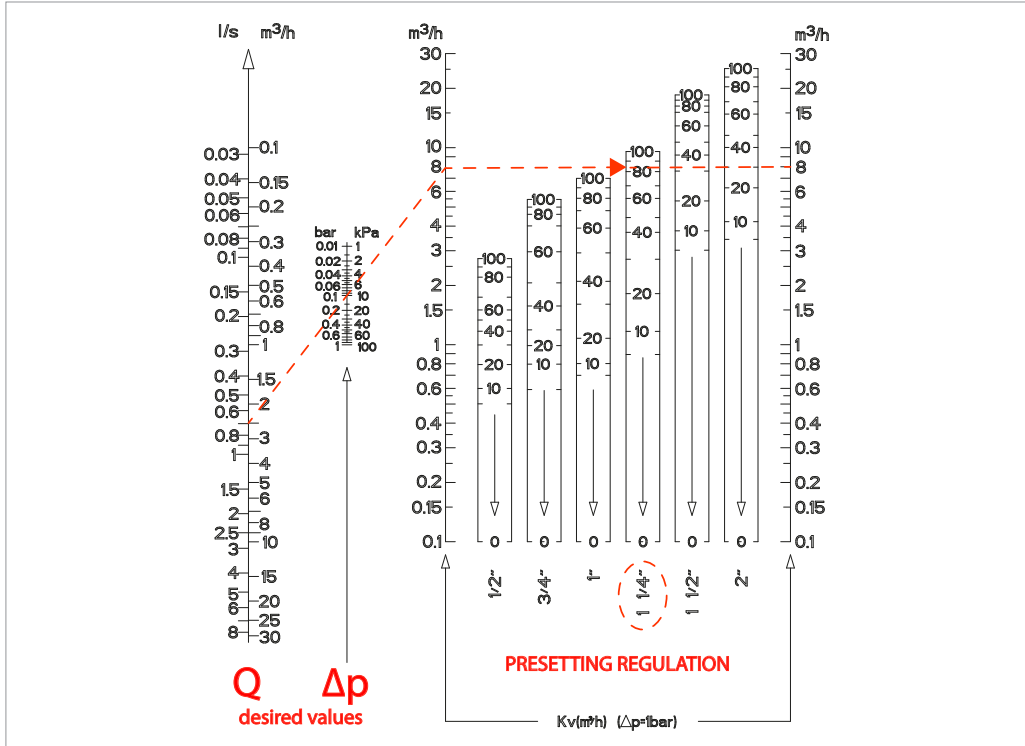

Fig. 3
- Through the diagram of figure 3, determine the regulation to be carried out to obtain the desired flow rate **Q** depending on the differential pressure Δp according to the valve size.